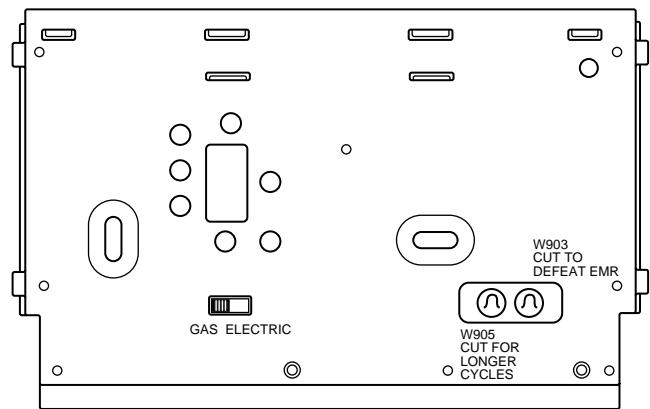

Figure 1. Back of thermostat base
If your system is an electric heat or heat-pump system that **REQUIRES** the thermostat to turn on the fan on a call for heat, locate the **GAS/ELECTRIC switch** on the back of the thermostat (see fig. 1) and switch it to the **ELECTRIC** position. This will allow the thermostat to energize the fan immediately on a call for heat. If you are unsure if the heating/cooling system requires the thermostat to control the fan, contact a qualified heating and air conditioning service person.
3. Two jumpers are also located on the back of the thermostat, so that you may customize the thermostat to meet your individual preference (see fig. 1). In most applications, the factory jumper settings provide the most comfortable and convenient thermostat operation.